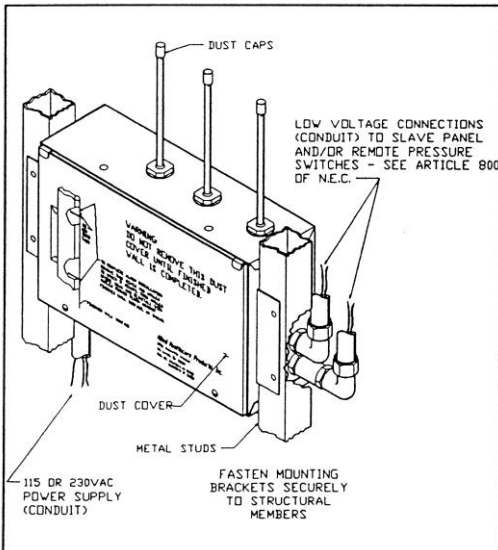
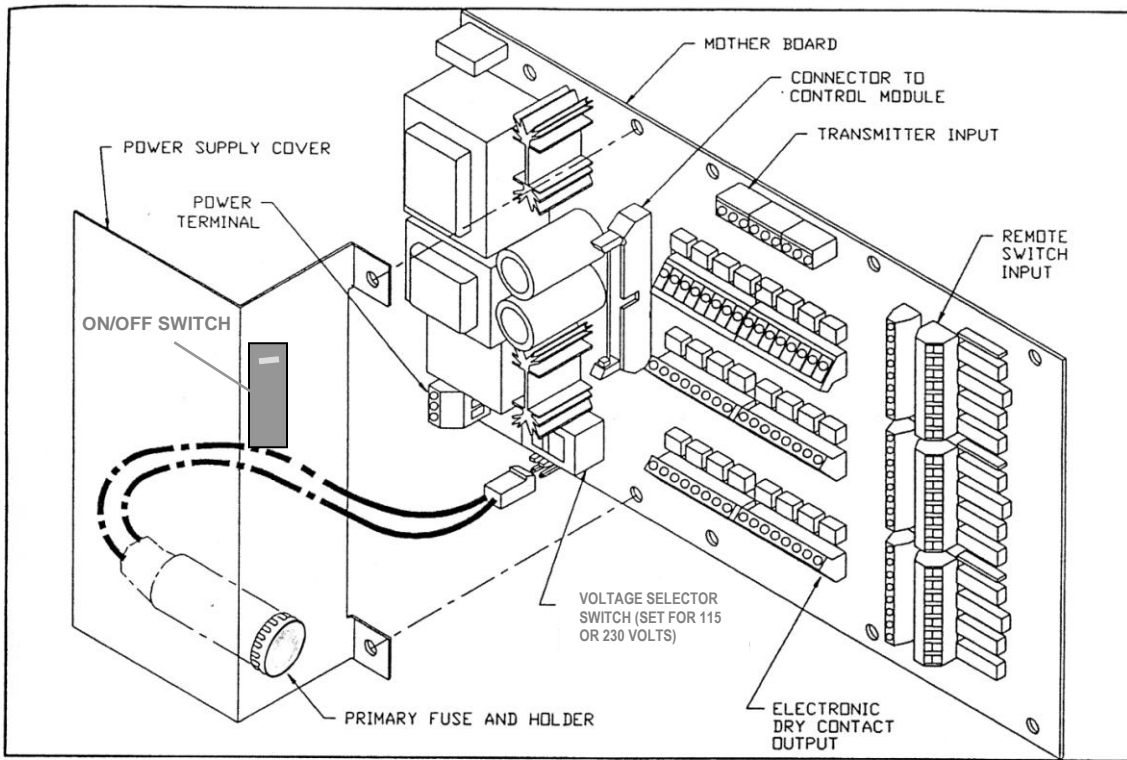

Figure 7 – Box Installed In Wall
Figure 9 – Mother Board and Power Supply Cover
- 4.1.2 Install the back box at the specified height in a rough-in wall (see Figure 7). Fasten it securely to the wall framing. **Make sure the box is parallel, squared and flush with the finished wall surface.** The contractor is reminded to coordinate with other trades in anchoring alarms rigidly into the wall. **It is not sufficient to simply grout them in.**
Insure that the primary fuse is not installed. If fuse is installed, remove by pushing in on fuse cap and rotating counterclockwise then pulling out (see Figure 9). **Do not** install the primary fuse until after the Front Panel is connected.
4.2.2.2 Bring 115 or 230 volts AC line to the left bottom side of the Back Box (see Figure 7) and connect conductors to: Hot side to terminal 1 of the Power Input; Neutral side to terminal 3 of the Power Input Terminal Block and Ground to the grounding post or terminal 2 (see Figures 9 and 19). **Electrical supply should be from the standard and essential electrical system, life safety branch.** Verify that the Selector Switch is set for proper voltage (see Figure 9).
- 4.2.9.1 Connect the primary fuse connector to the plug (see Figure 9) on the Mother Board. Replace the Power Supply Cover. Do not replace the primary fuse until after the Front Panel has been installed.